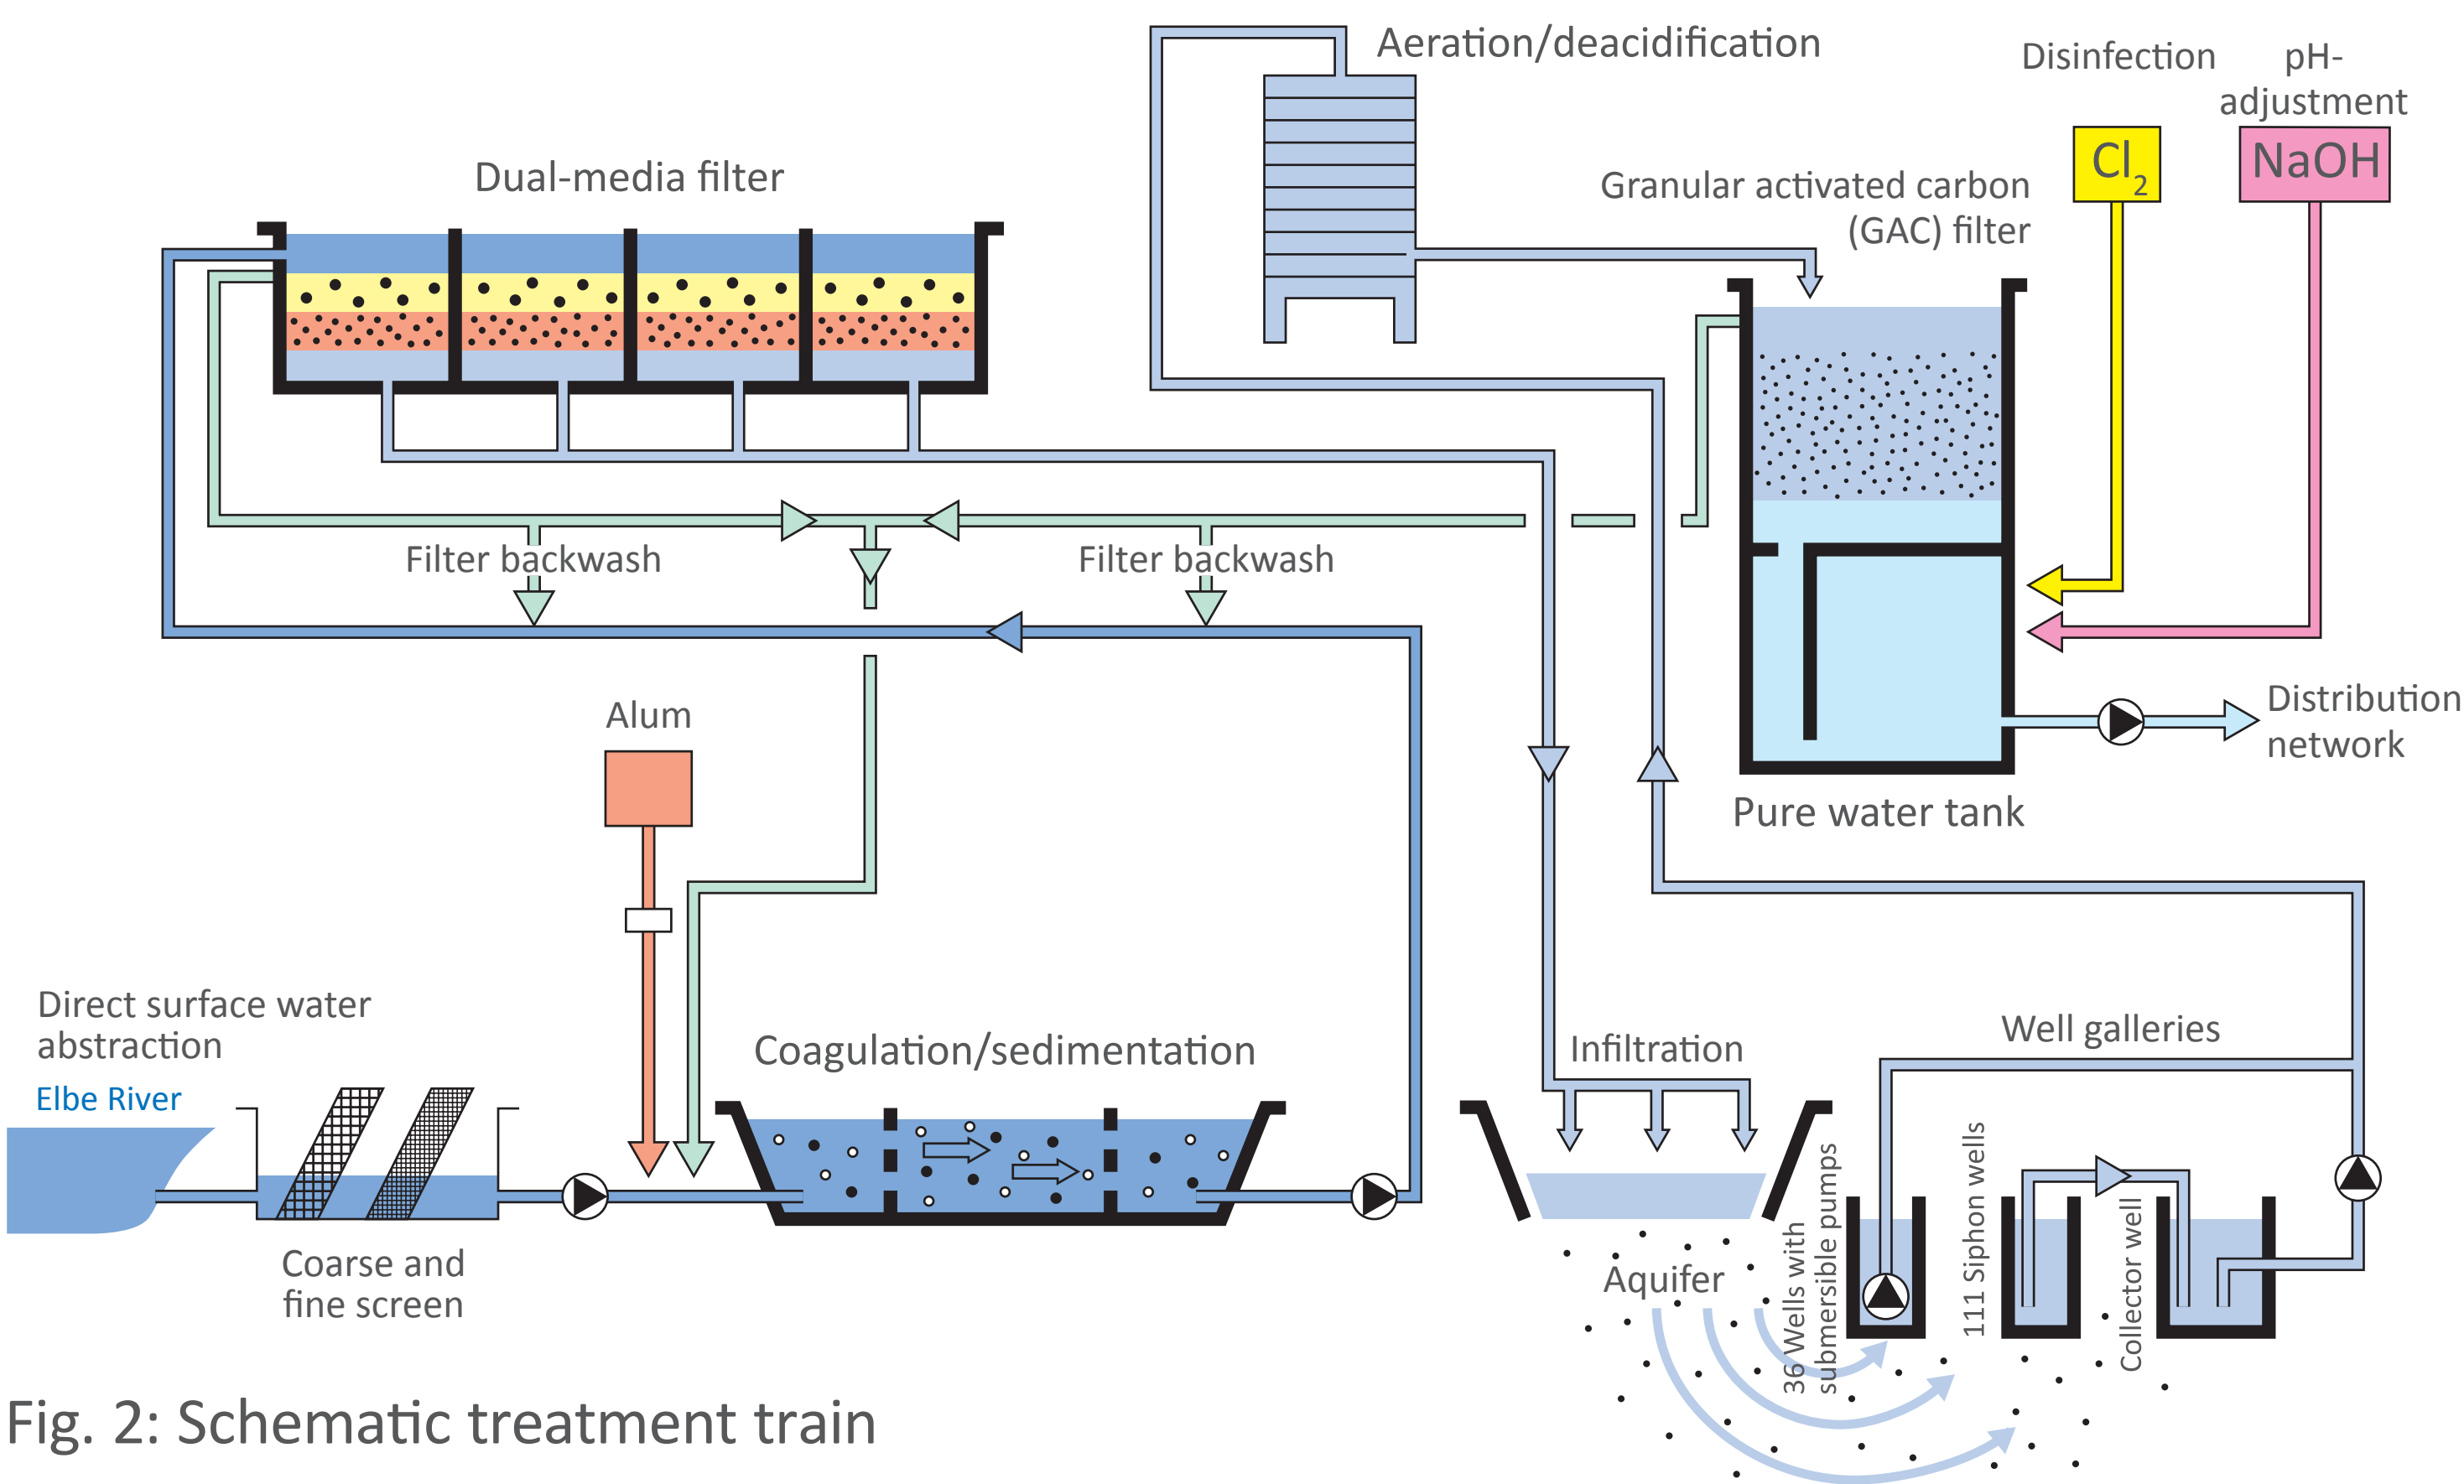

Fig. 2: Schematic treatment train
- Consists of 2 treatment trains (Fig. 2)